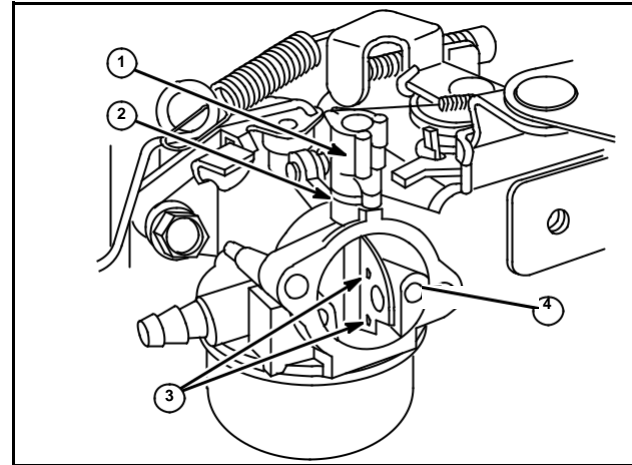

Fig. 110
1. Install choke shaft (1) and felt washer (2).
2. Rotate choke shaft lever as shown in Fig. 110.
3. Insert choke plate in slot of choke shaft until valve is centered on choke shaft with dimples (3) toward main air jet (4).
NOTE: On Choke-A-Matic carburetors install spring on choke shaft as shown in Fig. 110.